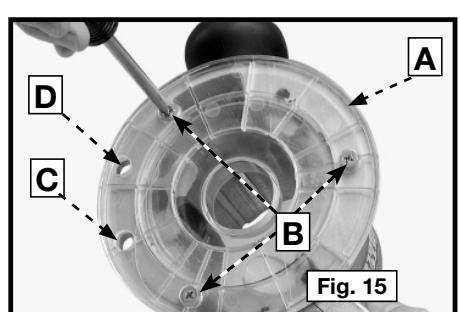

Fig. 15
3. Remove the screws (B) Fig. 15 and remove the sub-base (A) Fig. 15.
8. Replace the sub-base and the three screws (Fig. 15).
The router can be mounted to a router accessory table (not included). To open the clamp for motor removal, use a hex wrench in the hole (C), Fig. 15. To adjust cutting depth, use a hex wrench in the hole (D) Fig. 15. For instructions on how to mount the router to the router accessory table, refer to the accessory table instruction manual.